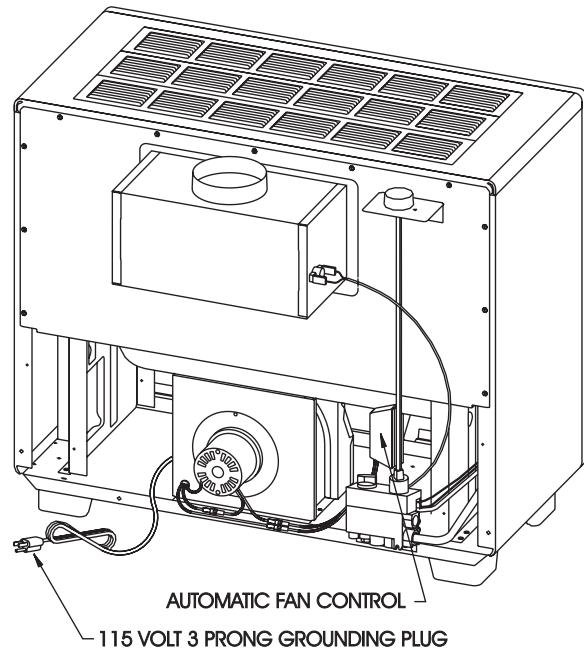

Figure 2
3. Align blower housing with blower cushion and use two #10 x 1/2" (13mm) hex-head screws to attach blower housing to bottom assembly. (See Figure 2)